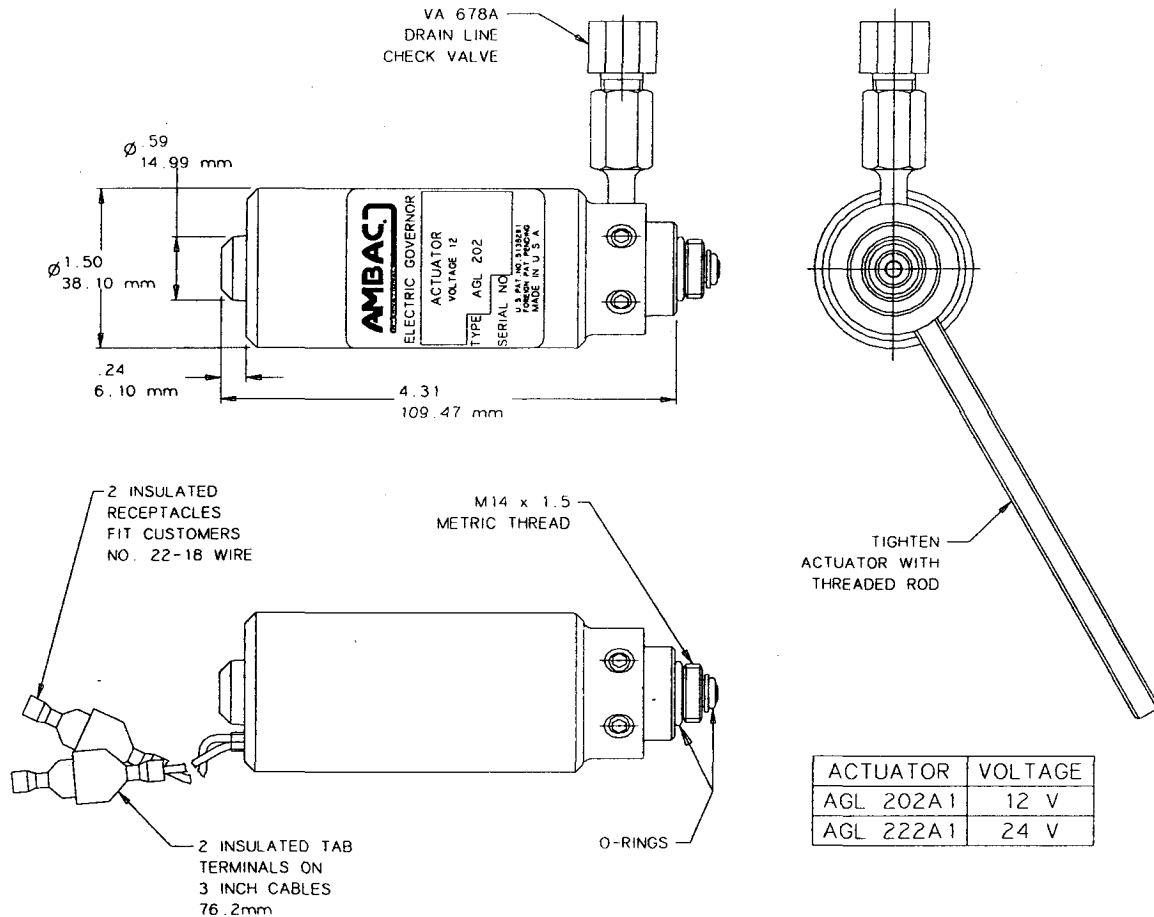

Figure 1 - AGL 202 and AGL 222 Actuator Dimensions
- Dimensions ..... See Figure 1